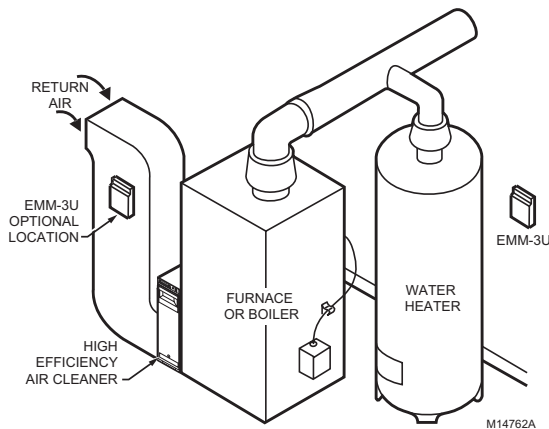

Fig. 2. EMM-3U mounting location.
3. Mount the EMM-3U zone panel near the HVAC equipment; locate it on a wall or on the cold-air return. See Fig. 2.